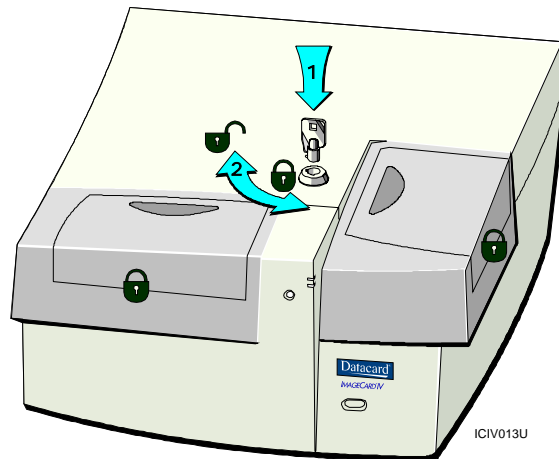

Figure 3-4: Turn key to lock or unlock printer
- 1 Insert the key into the lock (step 1 in Figure 3-4). The key fits the lock only one way.
- 2 Push down and turn the keylock one-quarter turn clockwise  to open the lock (step 2 in Figure 3-4).